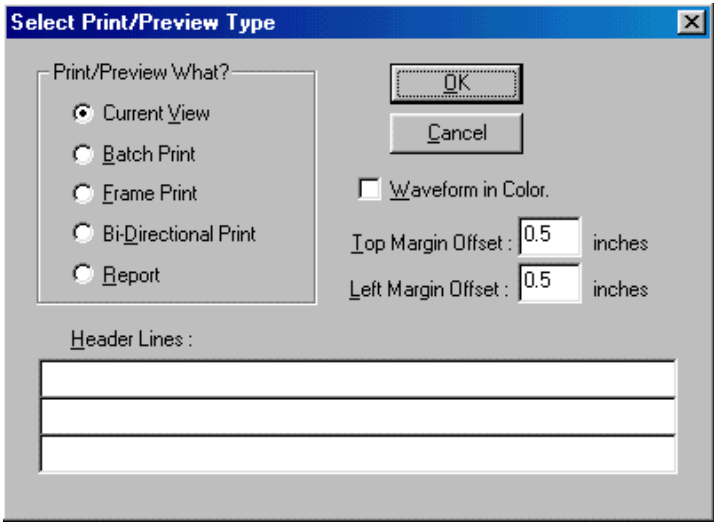

Figure 10-1: Select Print/Preview Type Dialog Box
3. Select **File>Print (or Print Preview)**. The Print/Preview dialog box shown in Figure 10-1 will be displayed.